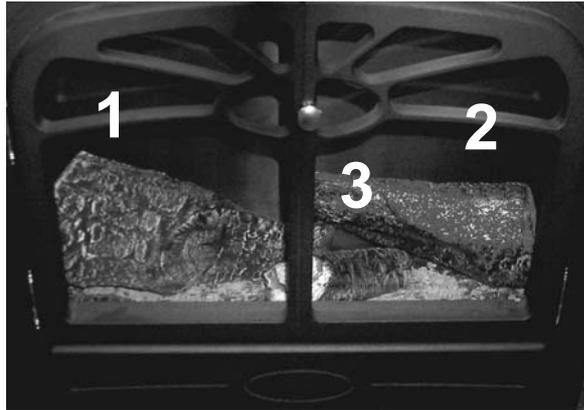

Fig.1
5. Referring to Fig1; remove the 3 loose log pieces from all their packaging. Position onto the moulded fuel bed by placing the largest (1) on the left hand side with the white area of the log facing down. The log will sit snugly into a moulded section of the bed, rotate until the desired appearance is given.